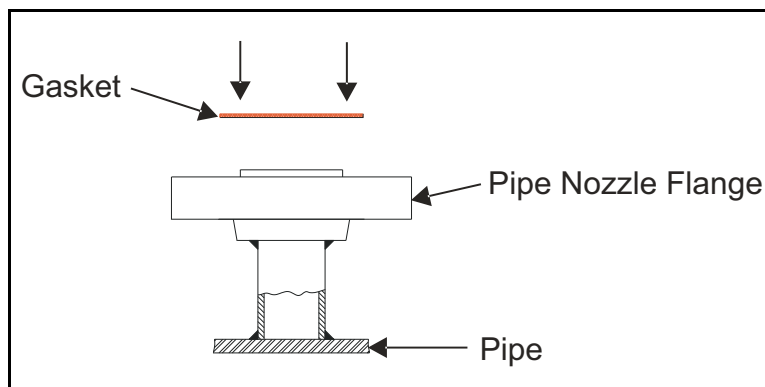

Figure 4: Placing a Gasket on a Pipe Nozzle Flange
6. Place one gasket on the top of each pipe nozzle flange, as shown in *Figure 4* below.